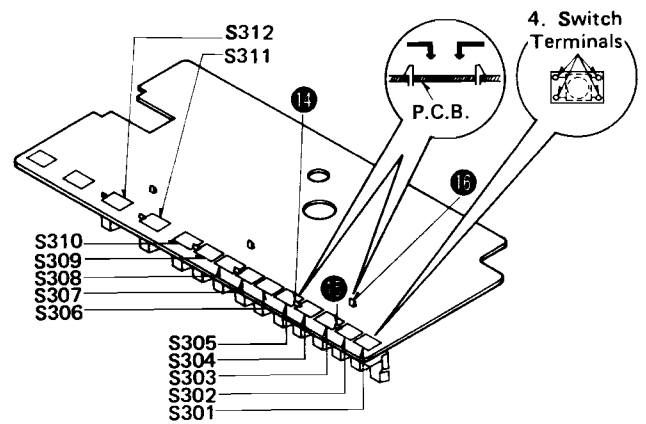

Fig. 8
3. To remove S301~S305, release the 3 switch holder's claws (Fig. 8: ⑭ ~ ⑯) and remove the switch holder in the direction of the arrow.
4. Unsolder the 4 switch terminals and remove the switch. (Fig. 8)